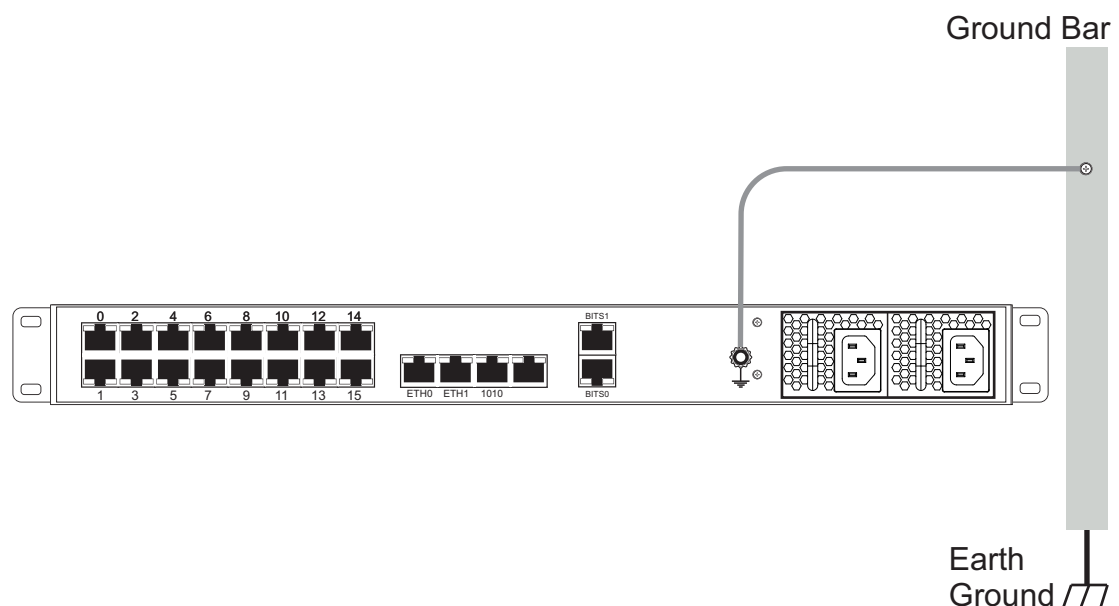

Figure 5.2 Chassis Ground Connection- 7800 TMS Later Models
As a standard safety practice, the chassis of the 7800 TMS must be properly grounded to protect against any contact with an electrical fault condition. It is recommended that the chassis be connected to earth ground. When the 7800 TMS is installed in an equipment rack, connect the ground wire between the ground lug of the unit and the equipment rack ground bar (figure 5.2 on page 46), or in the case of earlier 7800-TMS models (figure 5.2 on page 46), connect a ground wire between the power supply mounting bolt and the equipment rack ground bar.
- Do NOT daisy chain the ground between equipment. Use a ground bus bar, as show in figure 5.2 on page 46.
1. Connect one end of a ground wire to the chassis ground lug of the 7800 TMS. See figure 5.2 on page 46.